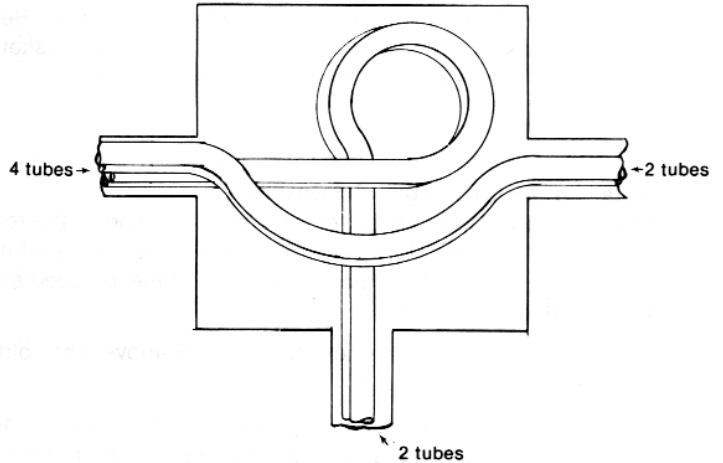

Figure 6
**Junction boxes.** If conduit junction boxes are used, allow for *extra tubing* coiled up in the junction box. Do *not* run tubing tight. (Figure 6)